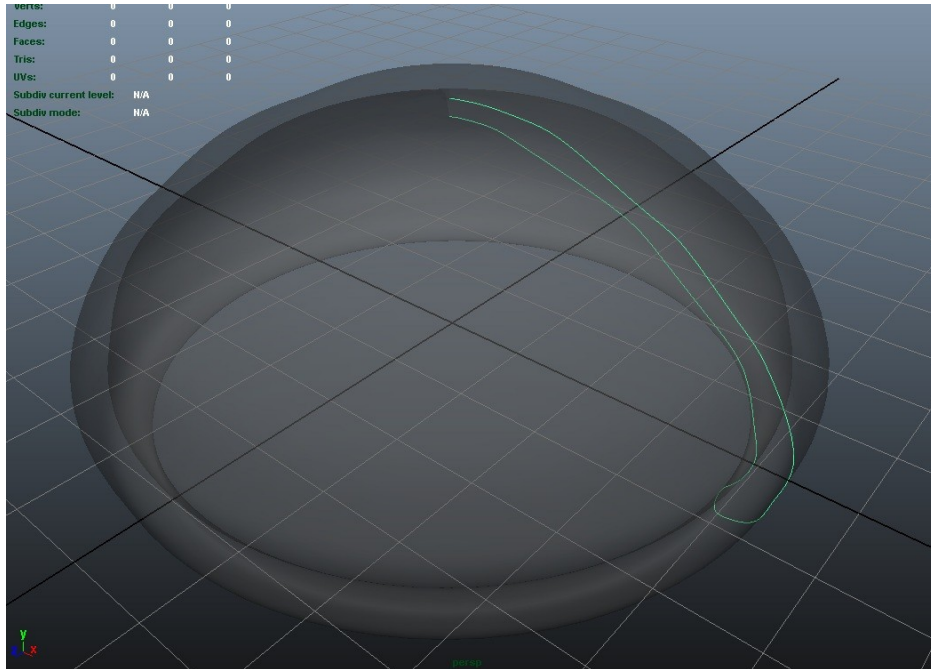

Fig. 03
6. With the EP curve created, select the curve1 then use **Surfaces**→**Revolve Tool** with the options box (Fig 03). Reset the tool to the default settings then change the number of segments to 20 then click revolve.